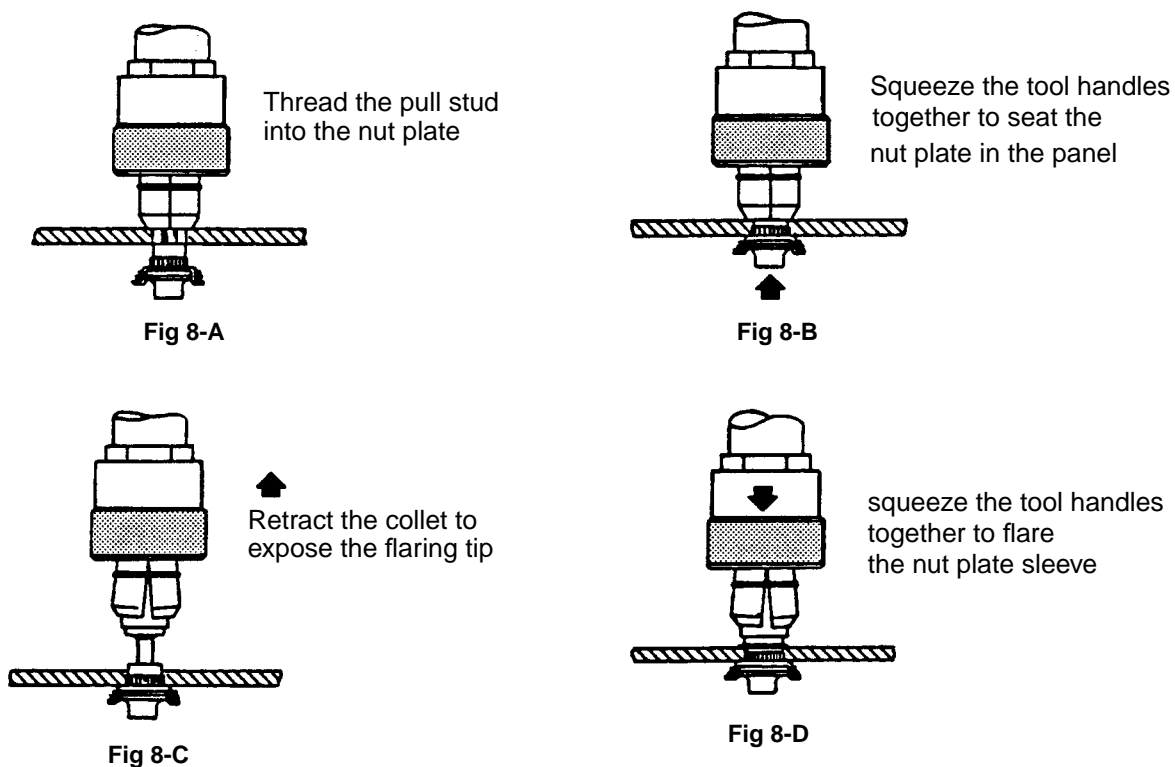

Figure 8 - Hand Tool Installation Sequence
- Step 4. Before commencing installation, ensure that the nose piece collet assembly is pushed forward and that the collet assembly is fully seated on the tool (see Figure 8-A).
- Step 5. Insert the threaded puller through the panel hole and engage the nut threads until full thread engagement is reached (see Figure 8-A).
- Step 6. Close the handles, thus pulling the nut plate into the prepared hole, until it is fully seated against the panel and the lobes are fully engaged (see Figure 8-B).
- Step 7. Release the handles and, without disengaging the tool from the nut, retract the nose piece collet assembly by pulling back on the outer sleeve to expose the flaring tip (see Figure 8-C).
- Step 8. Close the tool handles to upset the nut sleeve. Apply enough pressure to form a flat upset against the panel surface for plain holes, against the counterbore surface or against the countersink (see Figure 8-D).